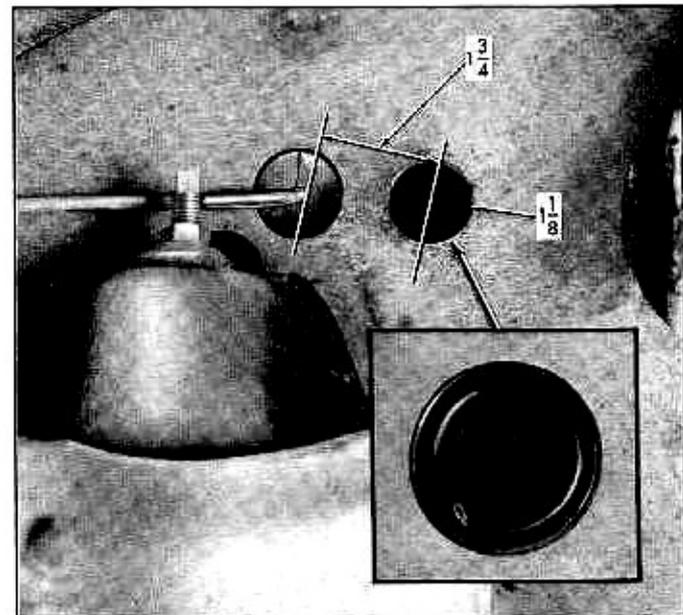

Fig. 1—Splash Shield Access Hole Location
3. Raise the front of the vehicle and drill a 1-1/8" diameter hole in the left front wheel splash shield (fig. 1).